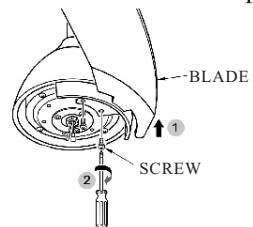

FIG.12
2. Attached each blade assembly to the fan body using the blade bracket screws. Tighten them securely. (See Fig.12)